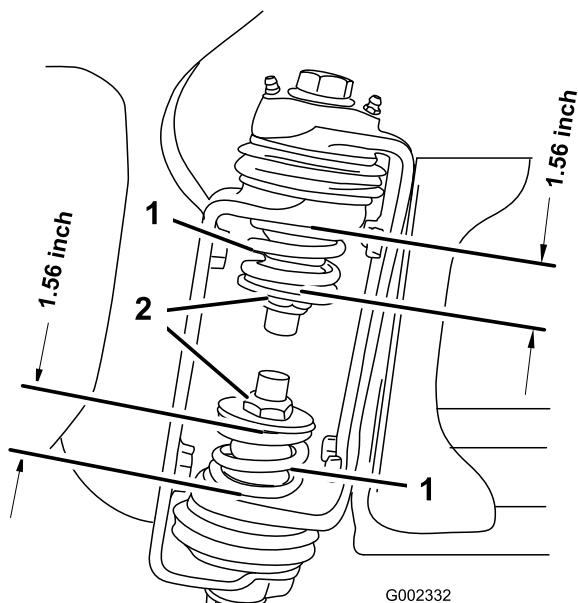

Figure 8
- At the boom hinge, measure the compression of the upper and lower springs while the booms are in their extended position (Figure 8).